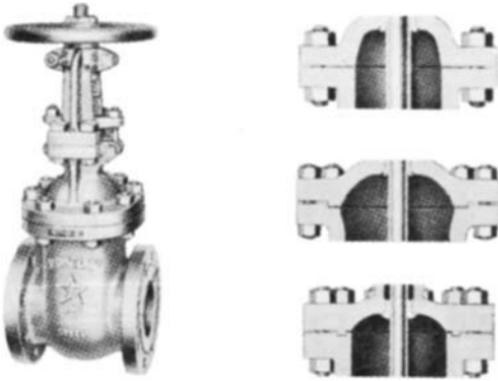

Figure 9-2D Bolted flanged bonnet. (Courtesy Wm. Powell Co.)
(1) flat-faced joint, (2) male and female joint, or (3) tongue-and-groove joint. Each of these joints is illustrated in Figure 9-2D.